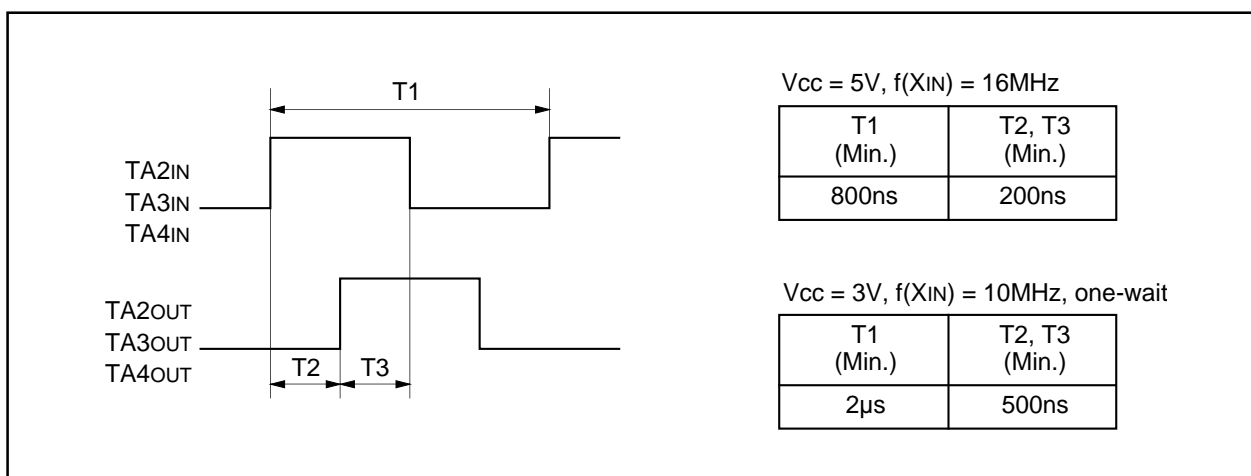

Figure 2.2.30. Standard of 2-phase pulses
- (3) Please note the standards for the differences between the 2 pulses used in the 2-phase pulse signals input signals to the TAIN pin and TAIOUT pin (i = 2, 3, 4), as shown in Figure 2.2.30.
- (4) When free run type is selected, if count is stopped, set a value in the timer Ai register again.